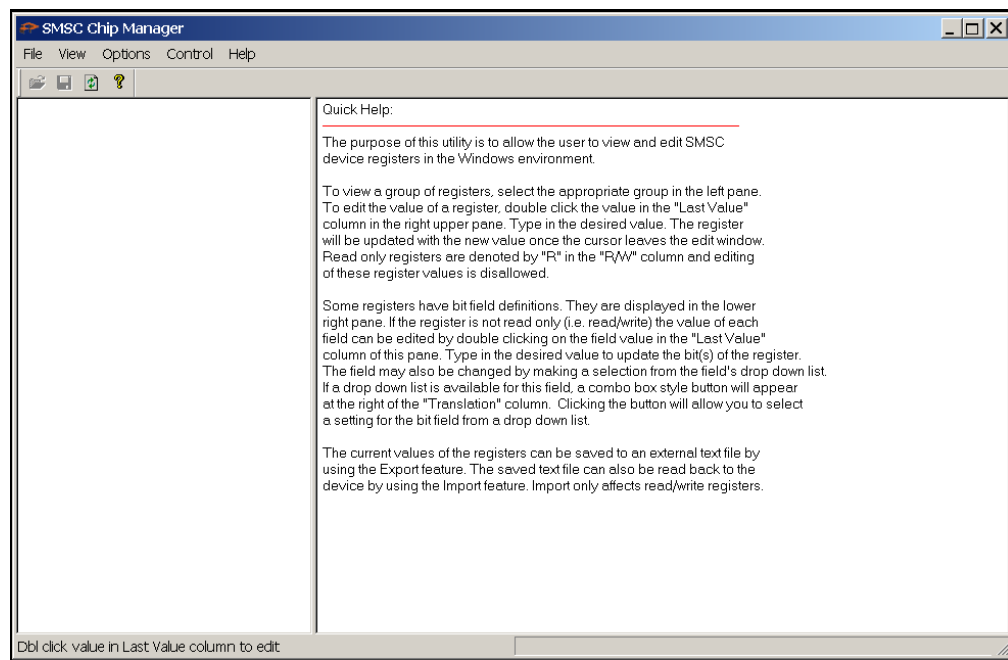
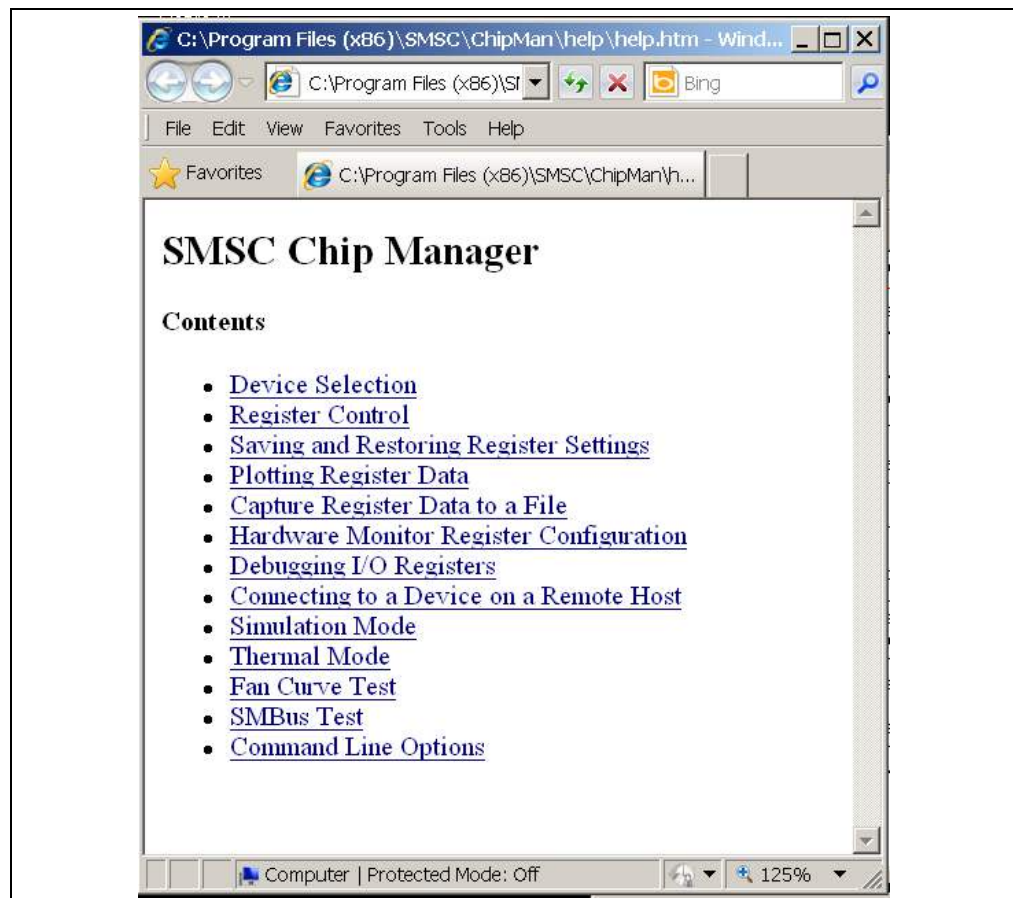

FIGURE 2-7: SMSC Chip Manager with Quick Help Window.
FIGURE 4-1: *Chip Manager Help Screen.*
- Start the software by either going to Windows *Start button* > *All Programs* > *SMSC* > *SMSC Chip Manager* or by double-clicking the software icon () on the desktop. The evaluation board software will initialize and the SMSC Chip Manager with the Quick Help screen appears (see Figure 2-7).
The Chip Manager application enables the user to display temperature readings, set temperature limits and read/write configuration register values. The Chip Manager initially displays a Quick Help screen (see Figure 2-7). For detailed information on application features and usage, select *Help > Contents* to display the HTML-based Help document, as shown in Figure 4-1.